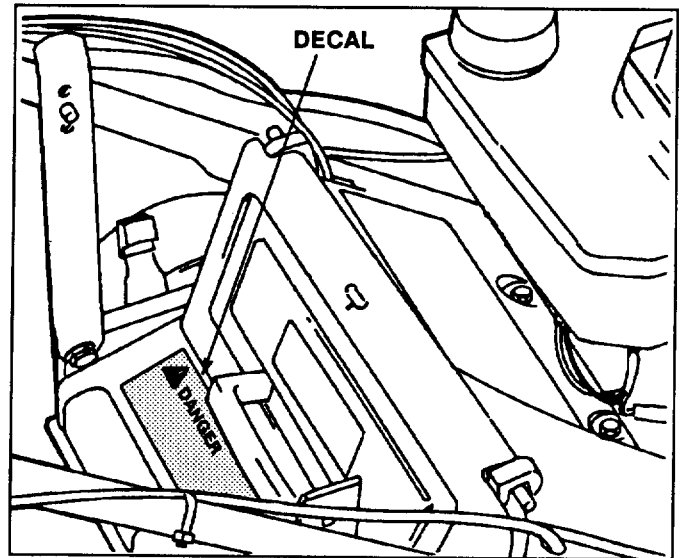

Figure 3
2. Remove paper backing from decal and apply decal to mower housing in location shown in Figure 3.